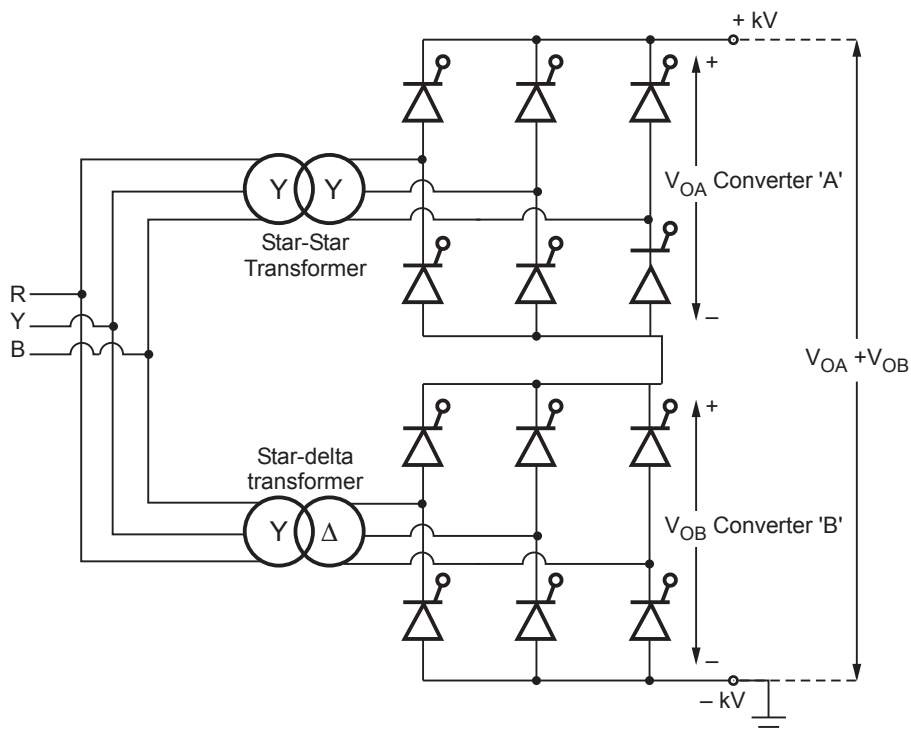

Fig. 13 Circuit diagram of 12-pulse converter
- Fig. 13 shows the circuit diagram of 3 ϕ 12-pulse converter used in above diagram. Observe that there are two converters 'A' and 'B'. These two converters are connected in series.